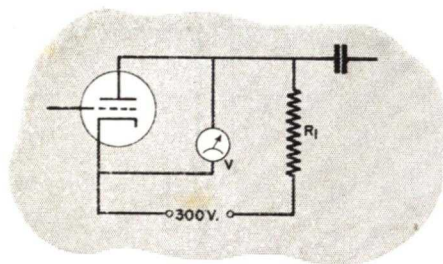
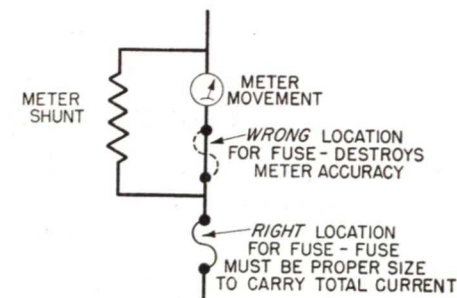

FIG. 20. A typical voltage-measuring problem. The accuracy depends on the ohms-per-volt sensitivity of the meter.
FIG. 22. Method of connecting a fuse in an ammeter or milliammeter circuit.
tronic circuits in which measurements are made. As a practical example of a typical electronic circuit, consider Fig. 20. Suppose that resistor  $R_1$  has a value of 50,000 ohms and the tube's d.c. plate resistance is 25,000 ohms. The total resistance is then 75,000 ohms, so 4 ma. flows from the 300-volt source ( $300 \div 75,000 = .004$  ampere). The tube's plate-to-cathode voltage is 100 volts, and the drop in  $R_1$  is 200 volts.
**Case 1.** If the voltmeter in Fig. 20 has a 100-volt range that requires 10 ma. for full-scale deflection, its resistance  $R_M = E \div I$ , or 10,000 ohms. (In other words, it is a 100-ohms-per-volt meter.) This resistance is in parallel with the tube's d.c. plate resistance  $R_P$  of 25,000 ohms, as shown in Fig. 22, so the resulting parallel combination of meter and tube is
**Case 3.** A 10,000-ohms-per-volt, 100-volt meter has a resistance of 1,000,000 ohms and a current demand of 0.1 ma. Such a meter will indicate about 98 volts if placed in the circuit of Fig. 20. This is an error of about 2%, well within the normal tolerance for such a circuit.
Fig. 22 shows the right and wrong locations of fuses in an ammeter or milliammeter. In Fig. 9 we saw the recommended location for fuses in a multi-range current meter. These fuses are in series with the measuring circuit, so all the current being measured flows through them. This arrange-